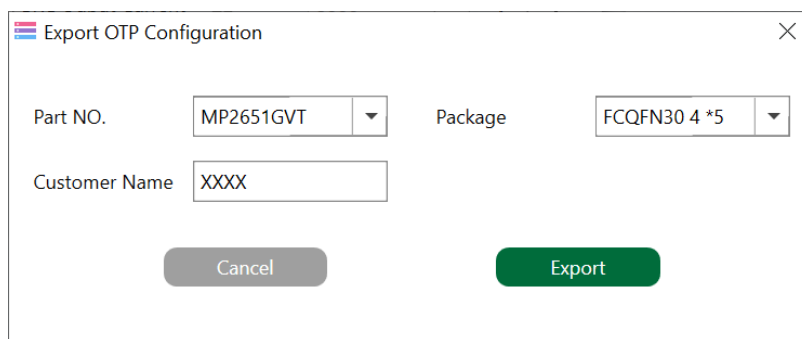

Figure 13: Click “Export” to Export the Input Parameter
- Click “Export” to export the selected configurations (see Figure 13).